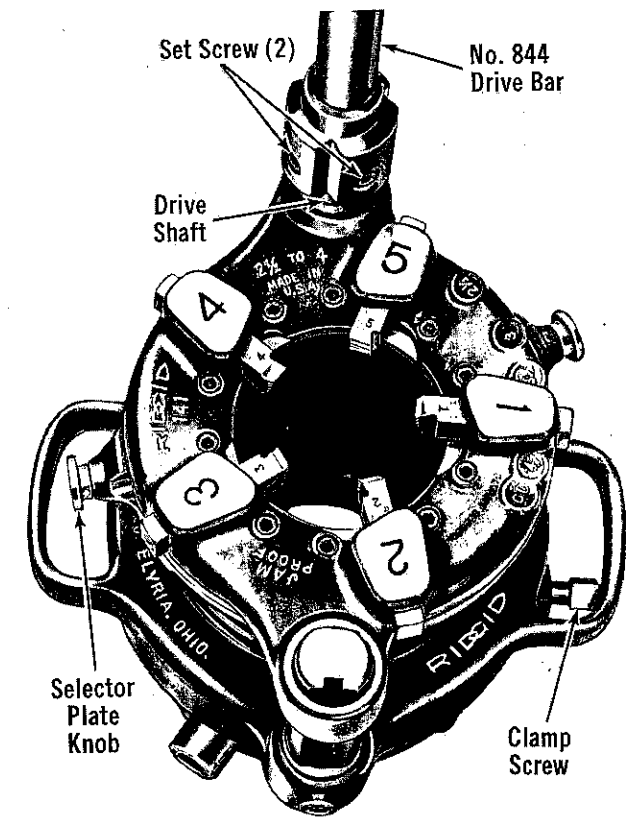

Figure 9. No. 141 Threader with No. 844 Drive Bar Installed (Nos. 161 and 4PJ Threaders Similar).
2. Place Threader on floor or workbench with Drive Shaft up. Install No. 844 Drive Bar on Threader Drive Shaft and tighten 2 Set Screws (Fig. 9).